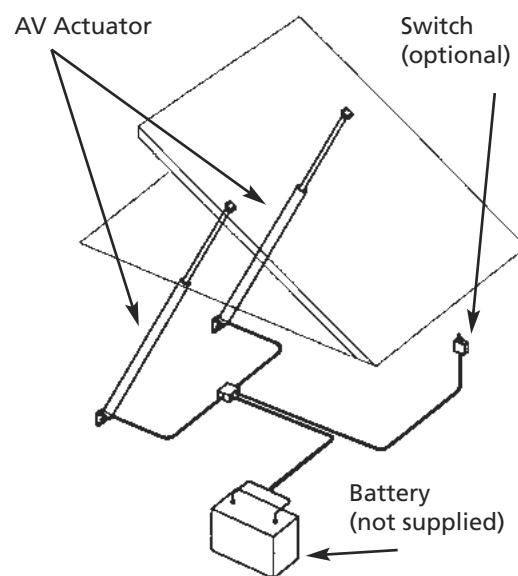

Fig. 2
- n° 2 AV actuators for dual installation (Fig.2)